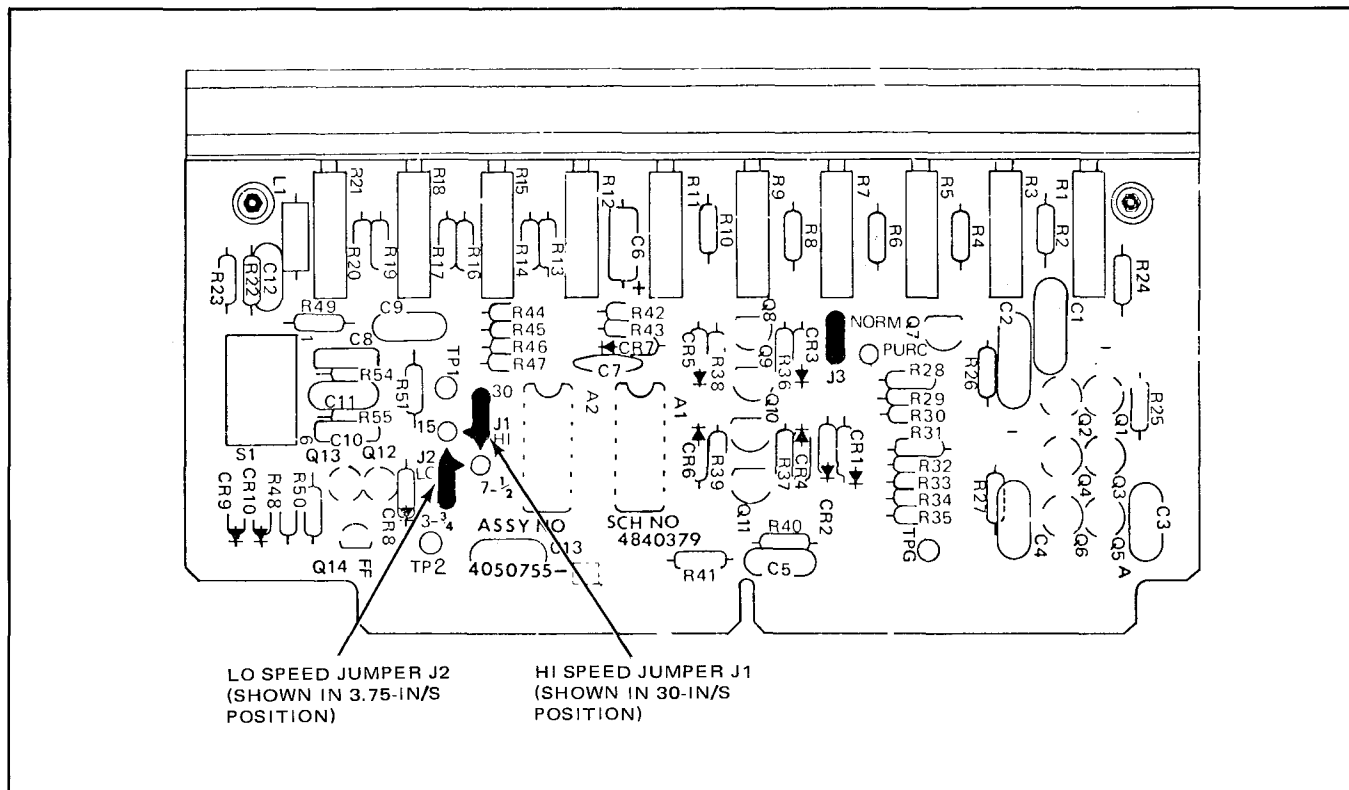

Figure 5-5. Speed Selection Jumpers, PADNET PWA
2. Position HI speed jumper J1 to the desired high speed: 30, 15, or 7.5 in/s position (Figure 5-5).